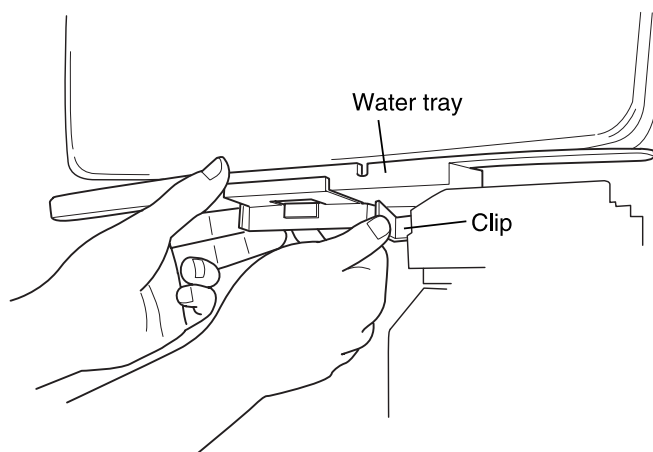
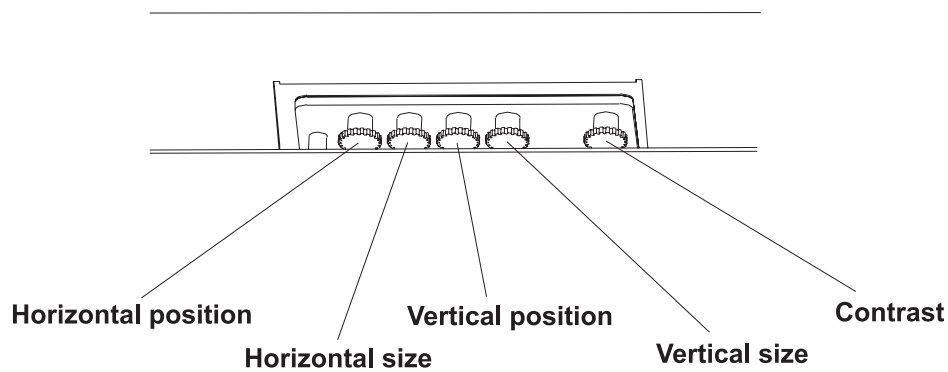

Figure 4-36 Removing the Water Tray
Figure 4-38 Monitor Adjustment Controls
2. Remove the white water-tray by pulling it firmly from the securing clips on the monitor handle (see *Figure 4-36 Removing the Water Tray*). This exposes the monitor adjustment controls (found immediately underneath the screen (see *Figure 4-38 Monitor Adjustment Controls*) which are connected to the monitor's circuit board.